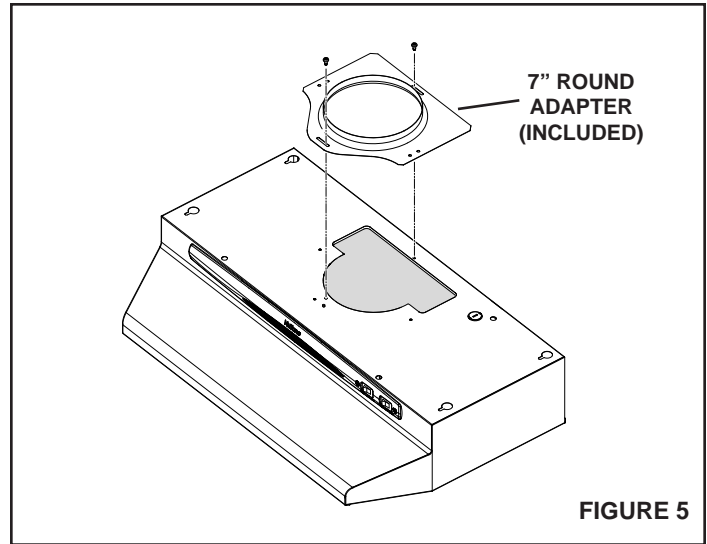

FIGURE 5
2. For 7" round discharge installation, refer to FIGURE 5. Secure 7" adapter (included) to top of hood using screws provided. Install 7" round damper (Model 895, purchased separately).